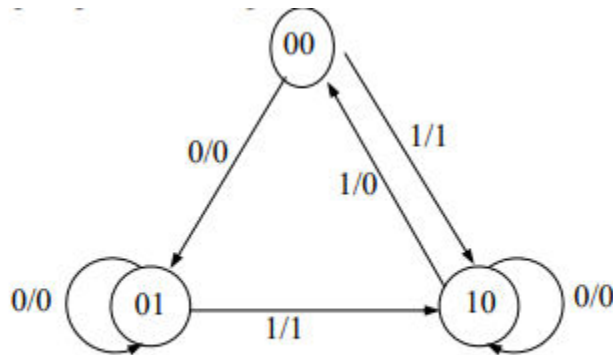

Fig. 1
- a) *Design, construct and test a sequential circuit whose state is shown in Fig.1. Use JK flip-flops in the design.*